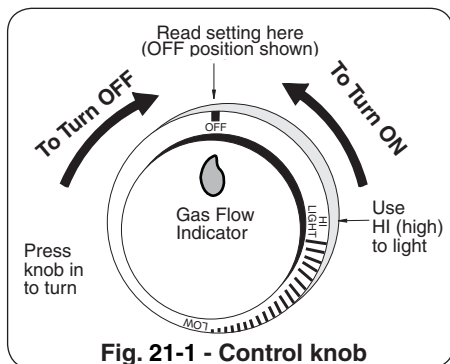

Fig. 21-1 - Control knob
**For your convenience and safety; when the control knob is in the on position, the gas flow indicator will change from blue to red. (Red indicates gas flow.) See Fig. 21-1.**